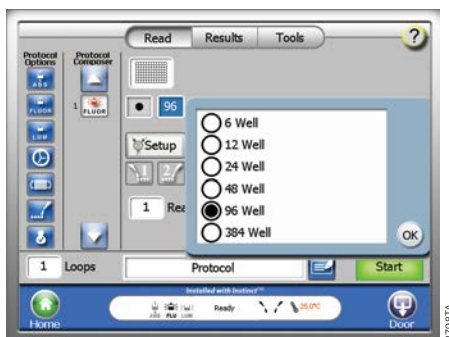

Figure 18. Multiwell format parameters on the Read Screen.
1. Select the “Read” screen, then touch the “Plate Format” button to call up the plate selection window (Figure 18).